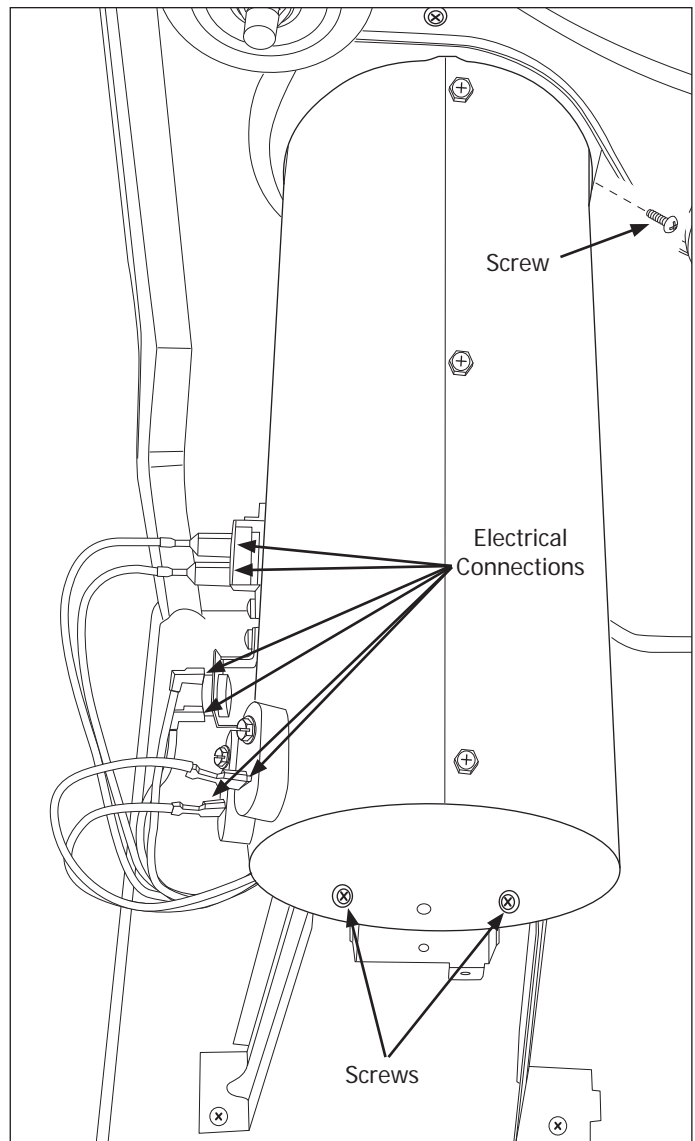

Figure 4-38.
3. Using a #2 square bit screwdriver, extract the two screws at the front of the heater assembly and the single screw at the right rear. (See Figure 4-38) Pull the heater assembly from heat duct.